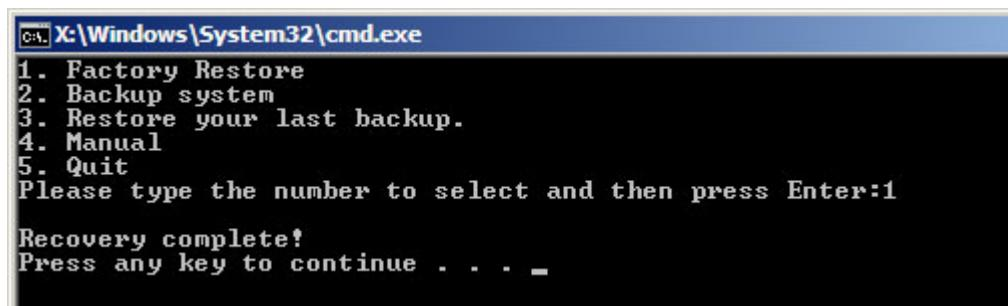

Figure B-28: Recovery Complete Window
**Step 3:** The screen is shown as in **Figure B-28** when completed. Press any key to reboot the system.